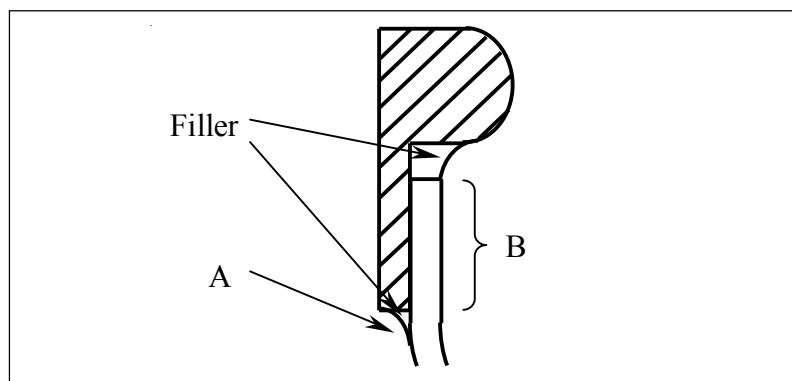

Figure 10 Canopy adhesive remainders
- 20 Sand down (using Scotch Brite Handpad Fine) a small area around the outside edge between canopy frame and canopy glass (area A in figure 10).
- 22 Sand down (using Scotch Brite Handpad Fine) the overlapping part between canopy glass and canopy frame on the inside (Area B in figure 10).